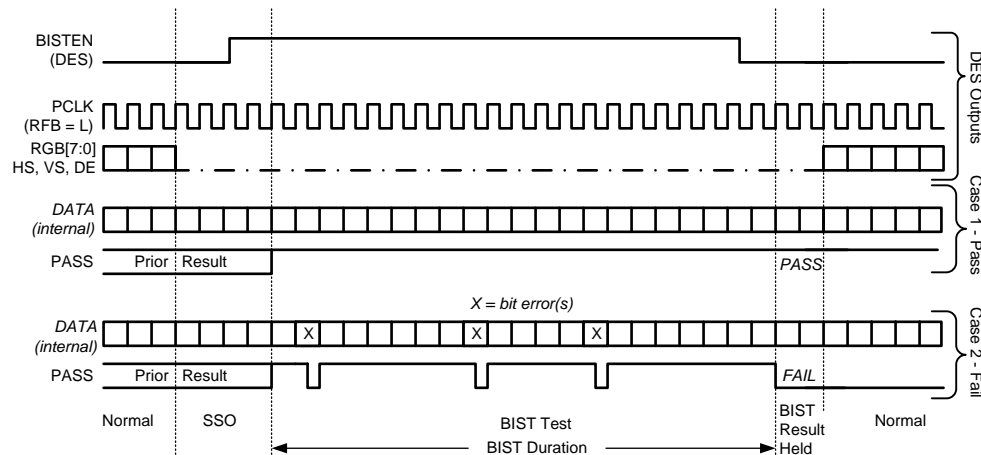

Figure 17. BIST Waveforms
Step 4: The Link returns to normal operation after the deserializer BISTEN pin is low. Figure 17 shows the waveform diagram of a typical BIST test for two cases. Case 1 is error free, and Case 2 shows one with multiple errors. In most cases it is difficult to generate errors due to the robustness of the link (differential data transmission etc.), thus they may be introduced by greatly extending the cable length, faulting the interconnect, reducing signal condition enhancements (Rx Equalization).